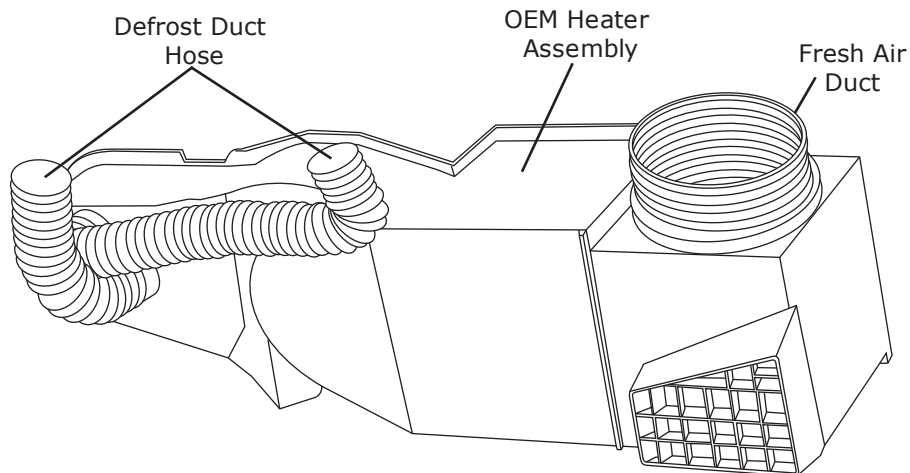

Figure 3
6. Remove OEM heater assembly (discard) (See Figure 3, below).